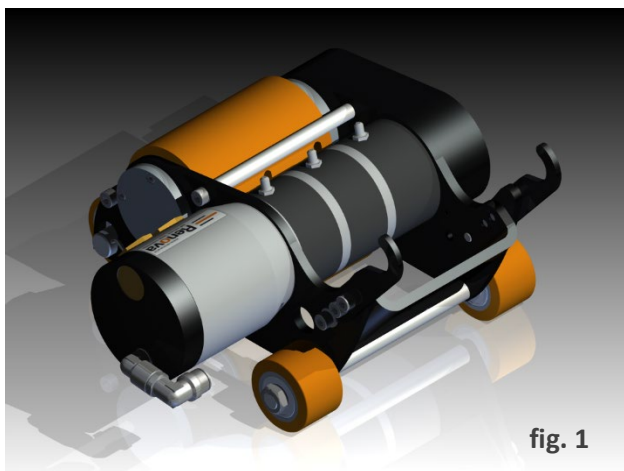
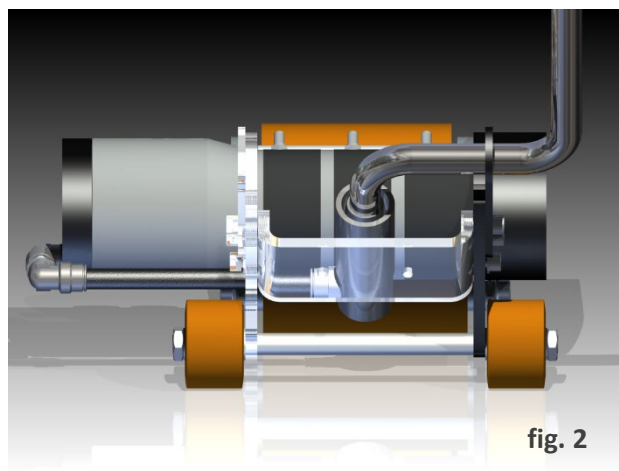

fig. 1
fig. 2
1. Initial situation after the removal from the box (fig.1)
2. Insert the supply pipe into the pipe fitting of the motor (fig.2)
- ❗ Do not use **moviroll** on surfaces with obstacles and holes of big dimensions that may cause the detachment of one of the rollers from the roller drive. Figure 1 shows how the weight of the roll/load should be unloaded on the rollers. Figure 2 shows an example of how **moviroll** should not work in order to avoid the premature breakdown of the bearing of the roller drive due to an improper unloading of the roll/load weight on them.